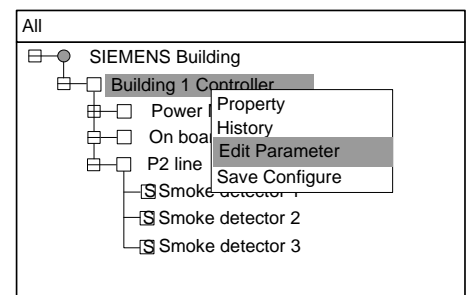
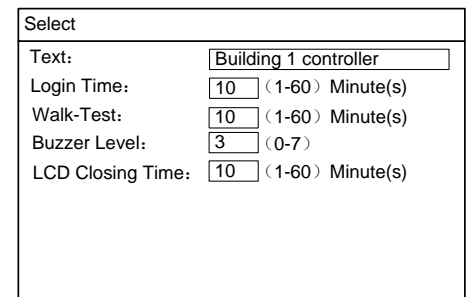

Fig.19-4
Fig.19-5
4. Press "→" to pop out the shortcut menu (Fig.19-4). Use "↓" to select "Edit Parameter" and press "OK" to enter the parameter editing interface (Fig.19-5).